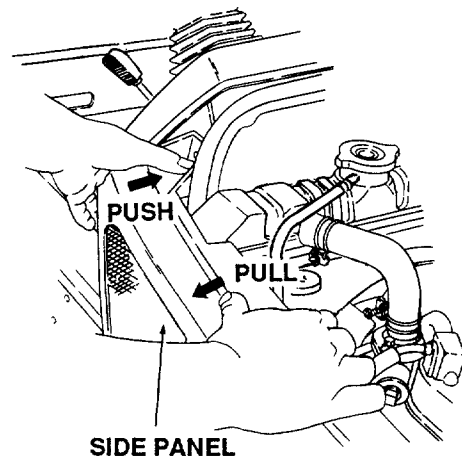

Figure 20
3. Grasp top center of panel as shown in Figure 20 and gently pull toward you in order to position mounting hole over stud.